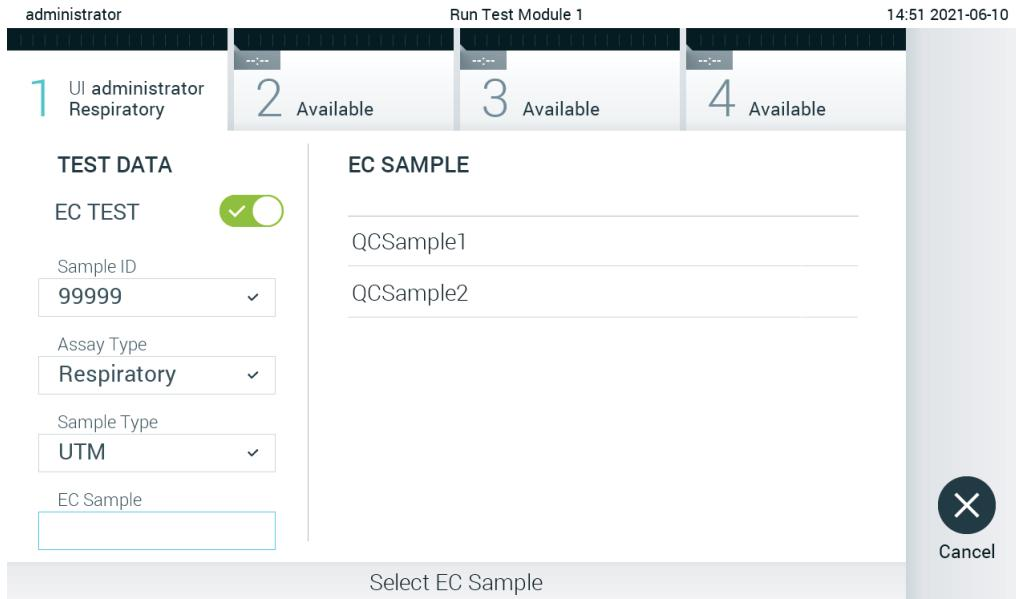

Figure 91. Selecting EC Sample.
6. Select the appropriate EC sample from the list. Only EC samples for the selected assay type are shown (Figure 91, next page).